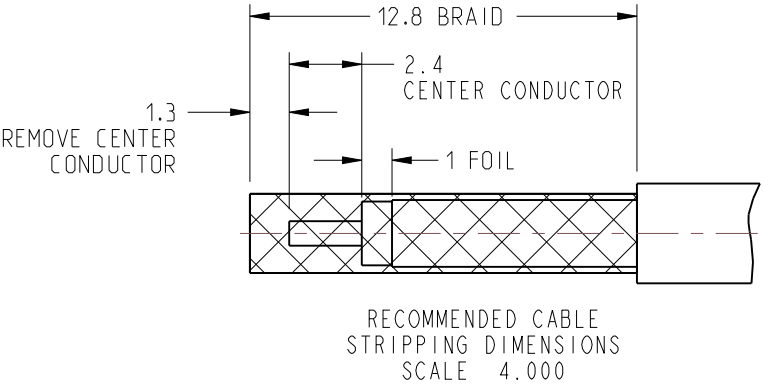

FIGURE 2
1. CUT CABLE JACKET ACCORDING TO THE "RECOMMENDED CABLE STRIPPING DIMENSIONS", AND PARTIALLY STRIP THE JACKET AS SHOWN IN FIGURE 2.